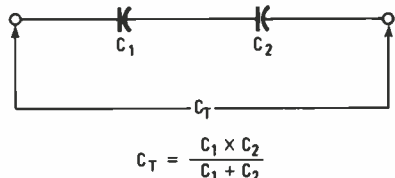

Fig. 15—Capacitors in series are calculated the same way as you would calculate the total value for resistors in parallel.
43. (.0485) When capacitors are connected in series as shown in Fig. 15, the total capacitance is computed using the formula: